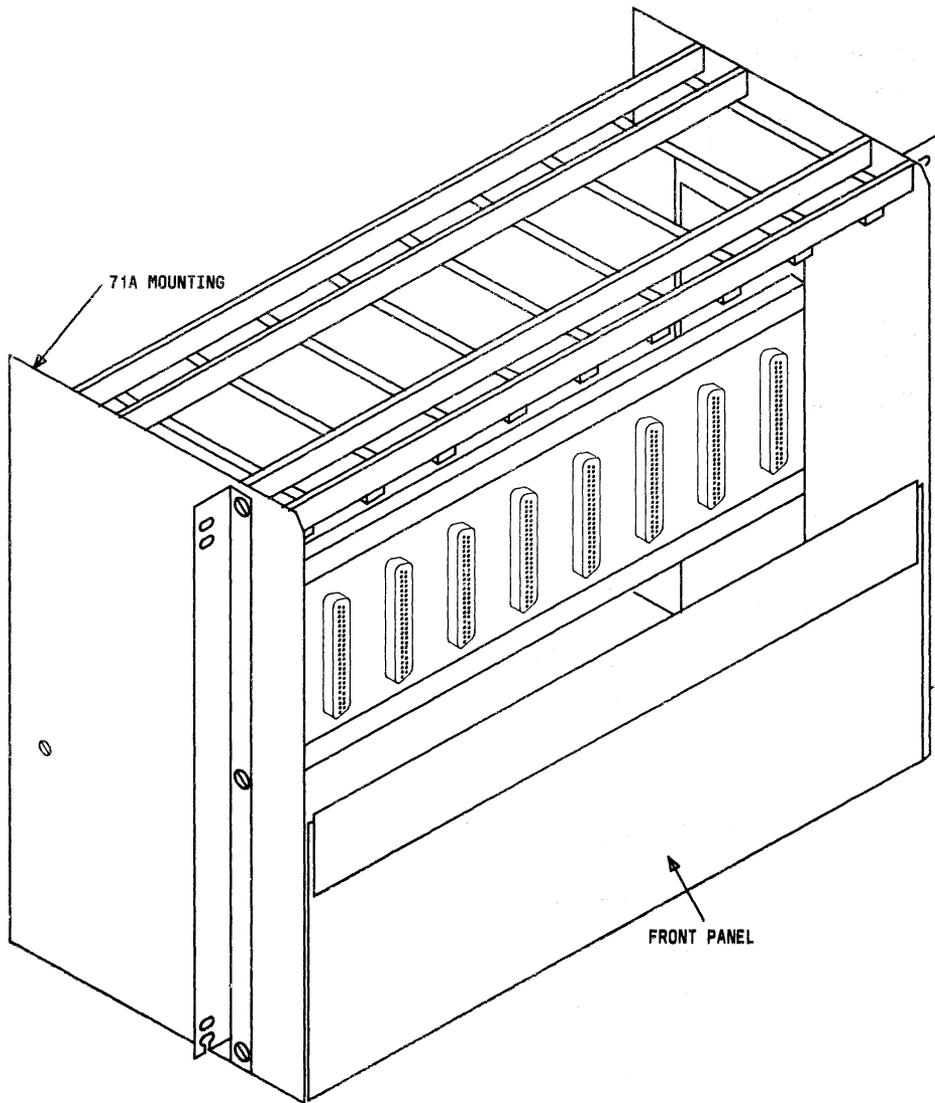
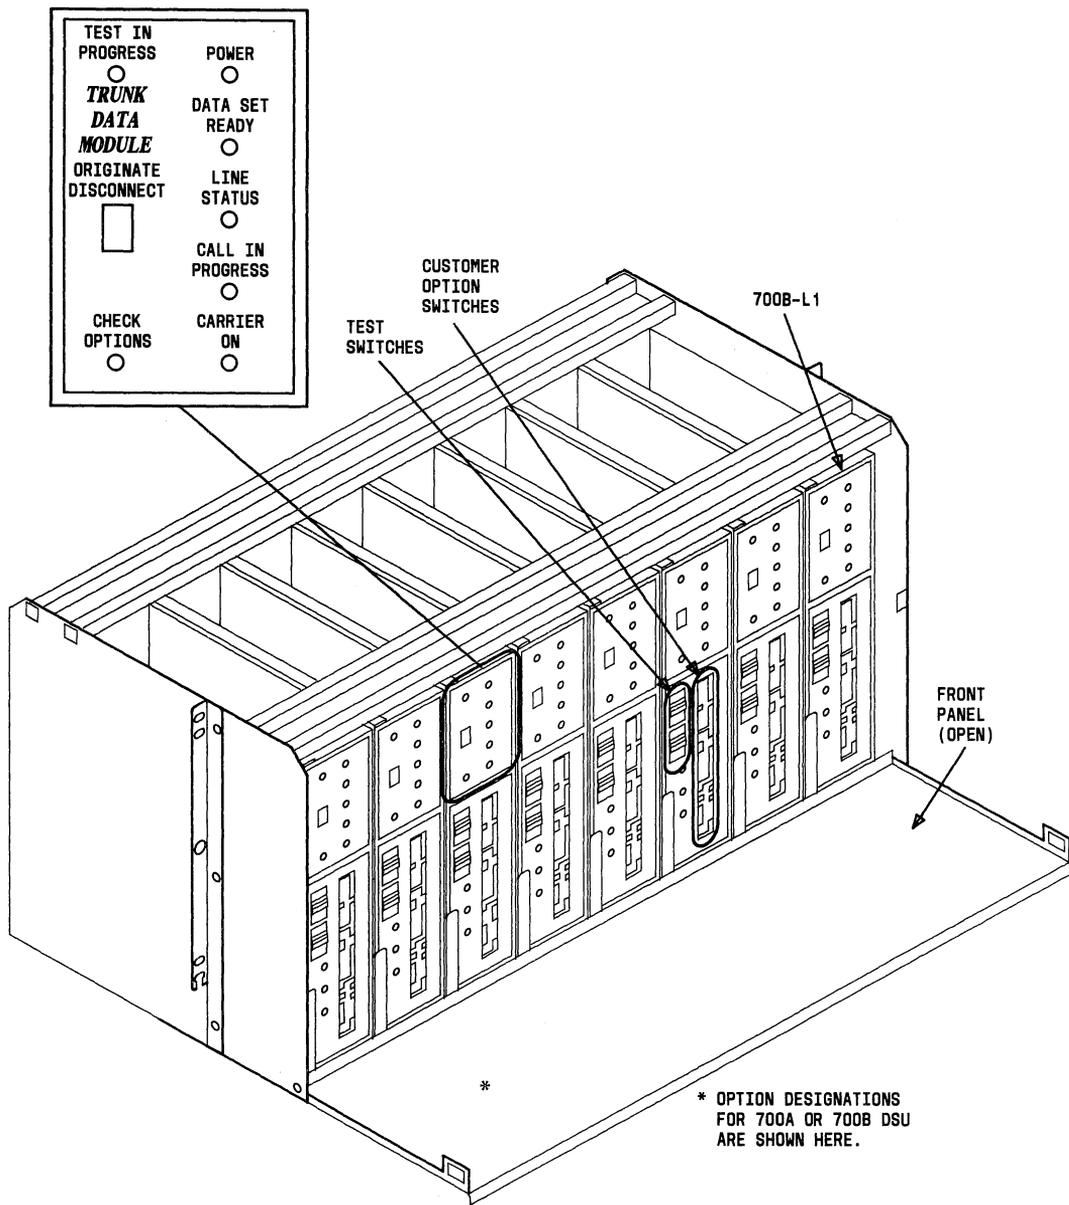

Fig. 6—Front View of 71A Multiple Mounting
Fig. 7—71A Multiple Mounting With Trunk Data Module Installed
2.15 The multiple mounting consists of a 71A mounting (Fig. 6) which holds up to eight PDM or trunk data modules (Fig. 7) in any order or mix. The 71A multiple mounting measures 19 or 23 inches wide, 8.7 inches high, 14.9 inches deep, and weighs 22 pounds without any modules installed and 40 pounds with eight modules installed. The maxi-